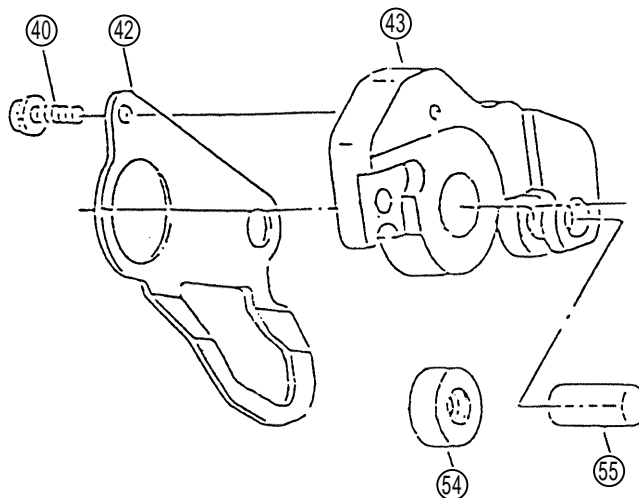

Fig. 9
- (ii) Remove the Return Plate (42). (See Fig. 9)
- (iii) Remove Roller (A) (55). (See Fig. 9)